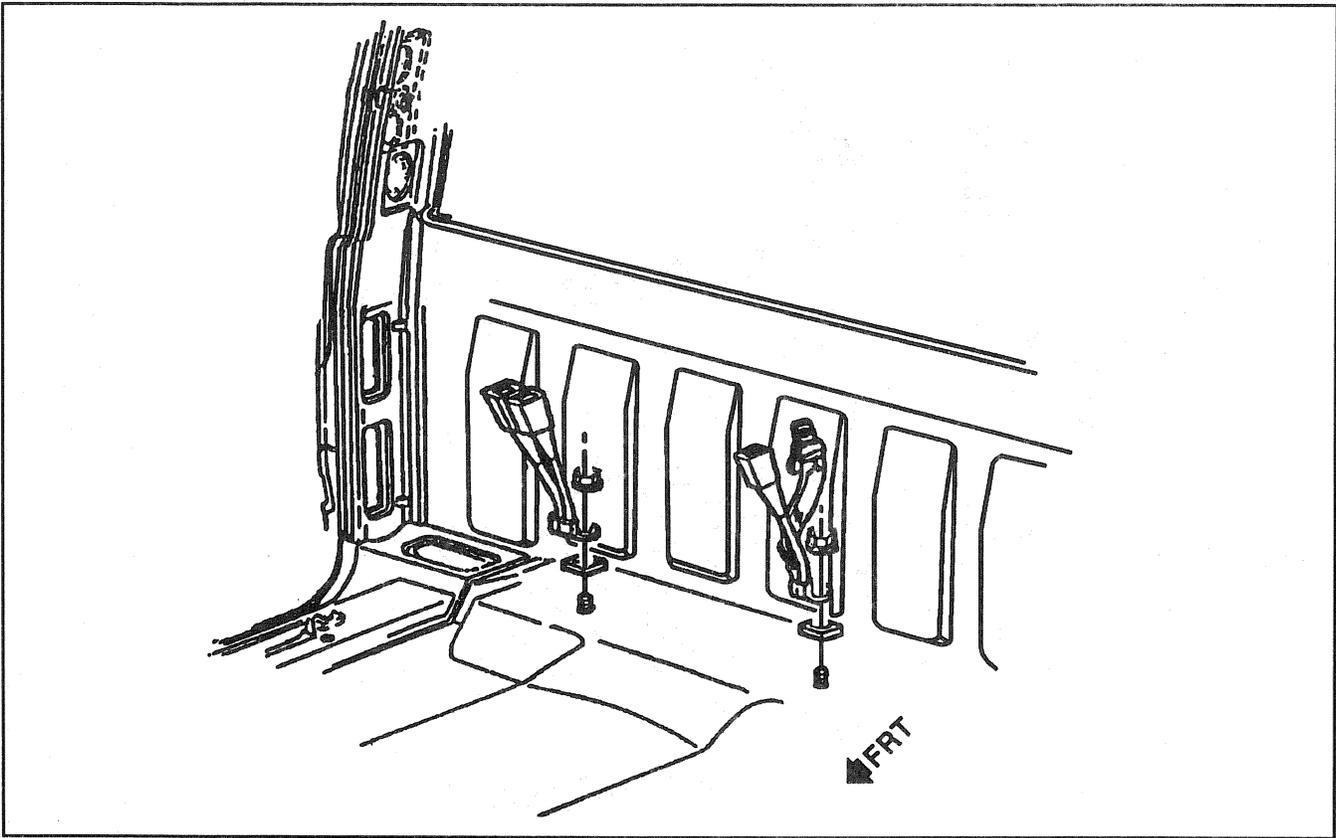

Figure 36—Front Right & Center Hook Tether to Latch Plate (Item # 1)
↔ Install or Connect (Figures 36 and 37)
4. Locate the position where the hole will be drilled from inside the cab. The hole may be located either 109 mm (4.3 inches) or 545 mm (21.4 inches) out-board from the centerline or center line of the back panel and 42 mm (1.65 inches) below the horizontal sheet metal panel (Figures 36 and 37).